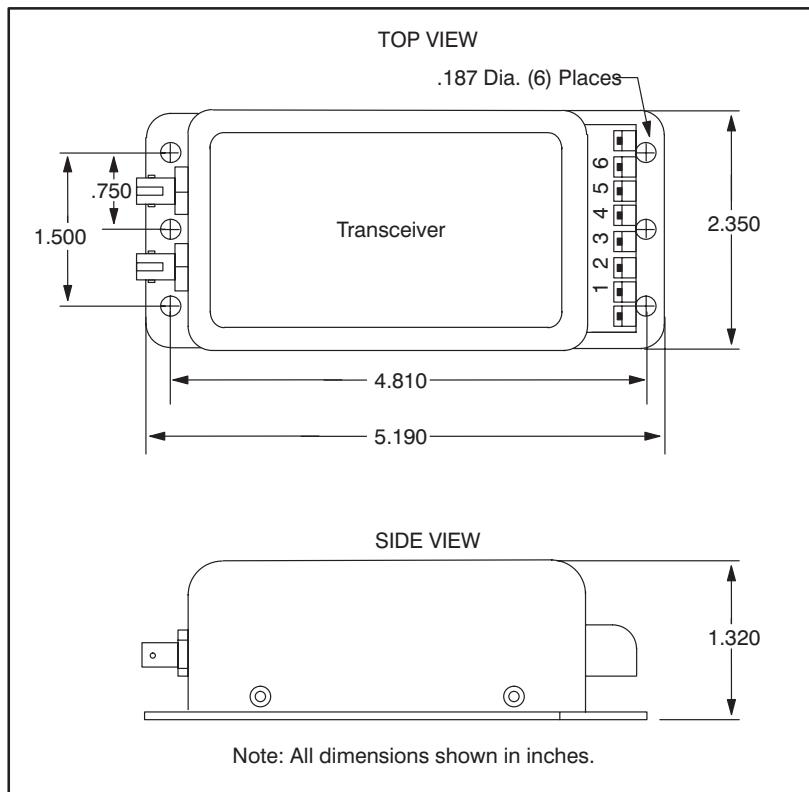

Figure K2.1 - Stand-Alone Transceiver Mounting Dimensions
| Figure K2.1 - Stand-Alone Transceiver Mounting Dimensions | K-8 |
- Step 1. Prepare the mounting surface using the mounting dimensions shown in figure K2.1 for the correct placement of the holes.